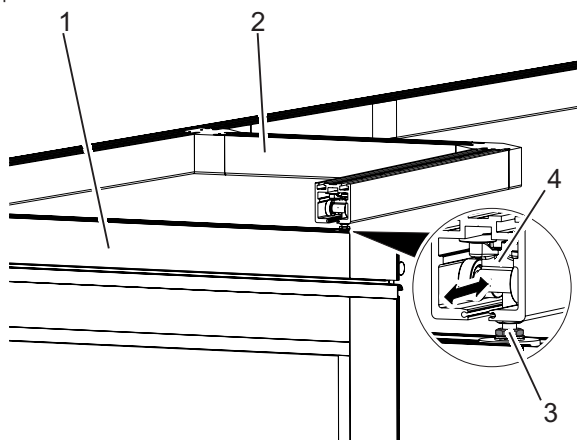

Fig. 18: Moving the rollers
1. Move the panel (Fig. 18/1), which is to be parked first in the stacking area (Fig. 18/2), into the stacking area.
2. Slightly loosen the nut (Fig. 18/3) at the branching off roller (Fig. 18/4).
4. Tighten the nut (Fig. 18/3) on the roller.